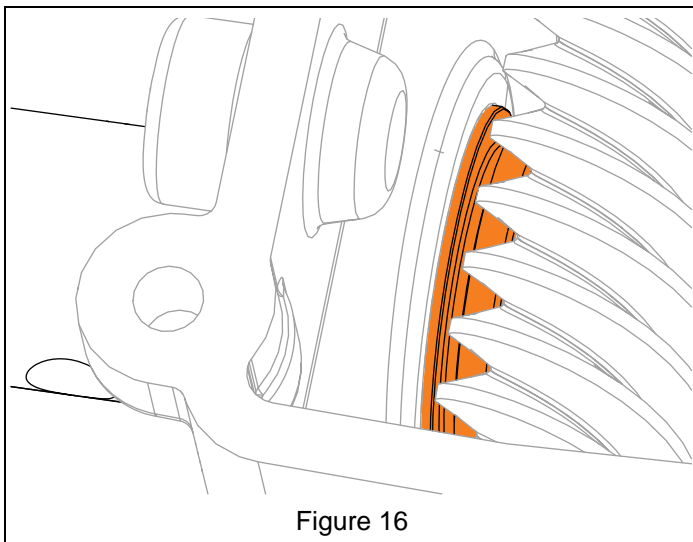

Figure 16
14. With a driver, such as a 1 1/4" deep-well socket, drive bushing into gearcase until groove is just beyond interior gearcase wall. See Figure 16.